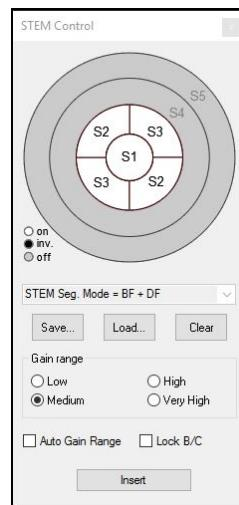

Figure 4.13: STEM Control window where you can insert/retract the detector, control detector modes, and gain settings
12. **Left Click:** to bring up STEM Control Window as shown in Fig. 4.13.
17. Use the STEM Control window (Fig. 4.13) to activate/deactivate/invert (White/Grey/Black) by **Left Clicking** the detector regions (S1, S2, S3, S4, S5).
- S1: Bright Field Imaging (BF)
- S2-3: Dark Field Imaging (DF)